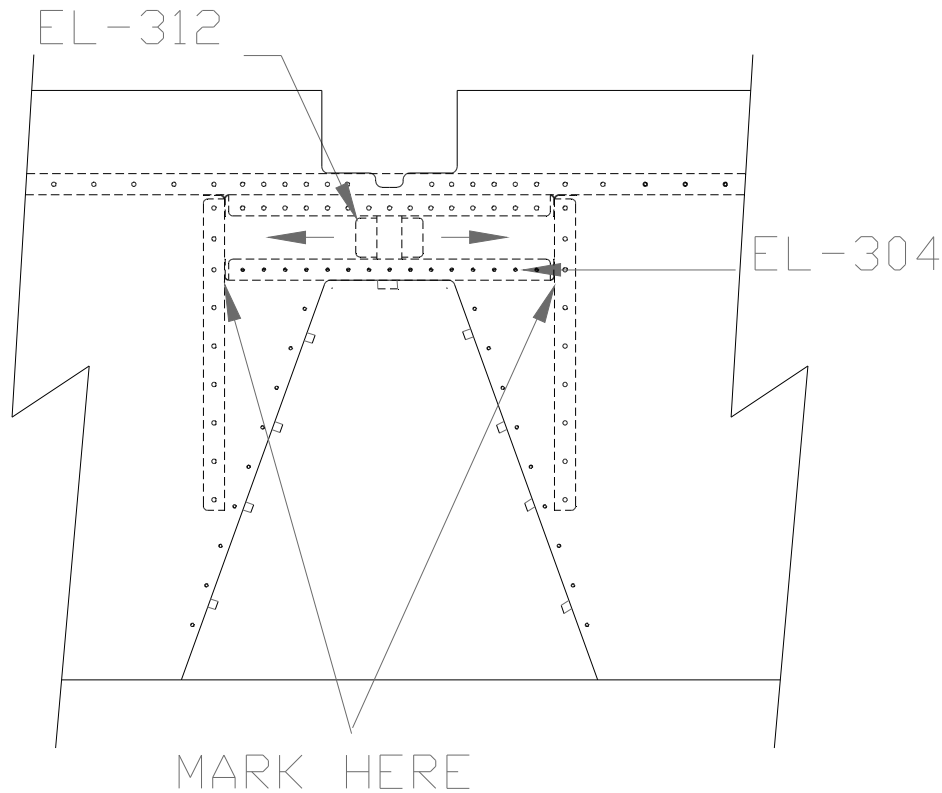

Figure 3.4.5
- 4) Mark the center of the top and bottom flanges of the second Elevator Center Doubler. Cleco the two EL0312 Stiffener Ribs to the Elevator Spar. Figure 3.4.5.
- 5) Cleco the second Elevator Center Doubler to the Stiffener Ribs. Mark the Elevator Center Doubler location onto the two center ribs. Figure 3.4.5. **NOTE:** Lower the Top Skin onto the center section to make sure the center line drawn on the EL0304 is visible through the pre-punched holes in the skin.